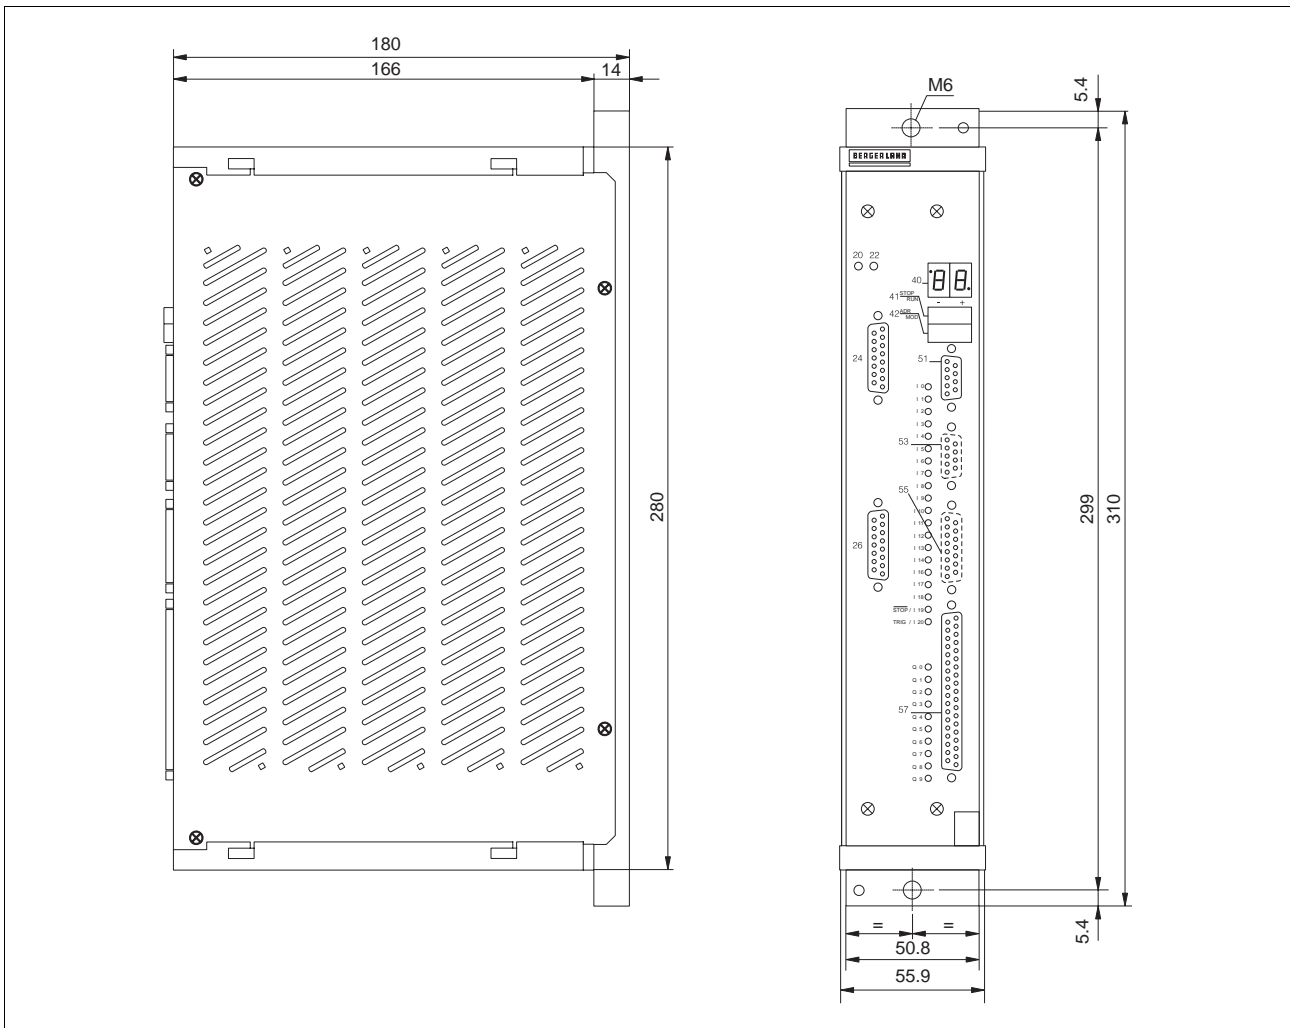

Fig. 1-9 WP-311 dimensions with 5-phase housing
with 5-phase housing	See fig. 1-9
1. Drill two holes into the mounting panel; see fig. 1-9 for the dimensions.